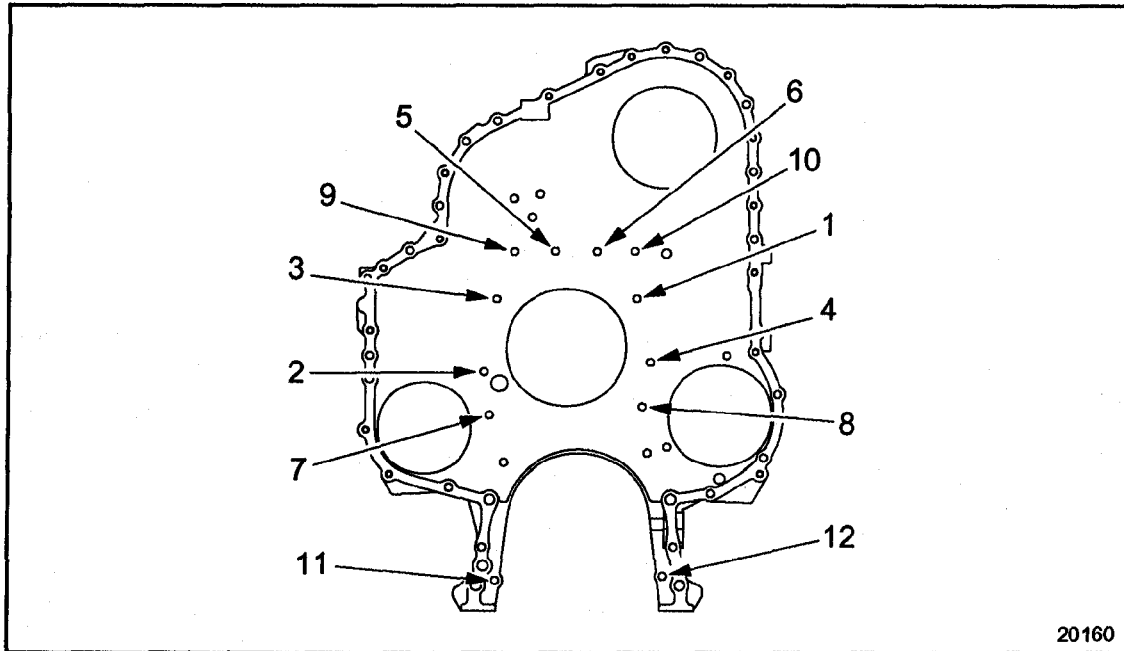

Figure 1-192 Gear Case Mounting Bolt Locations
15. Remove the 12 bolts that secure the gear case to the engine block. See Figure 1-192. Also remove the bolt that secures the gear case stabilizer bracket to the gear case.